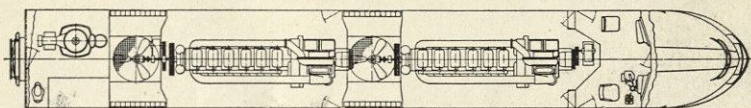

Fig. 8
6. Figure 8 is a floor plan which shows the arrangement of the cab and engines of the single-unit road locomotive illustrated in Fig. 4.